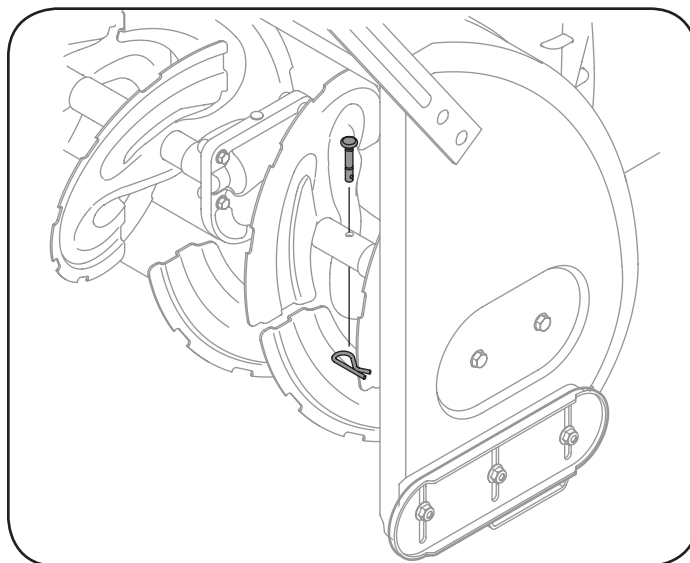

Figure 13
- The augers are secured to the spiral shaft with shear pins and cotter pins. If the auger should strike a foreign object or ice jam, the snow thrower is designed so that the pins may shear. See Figure 13.